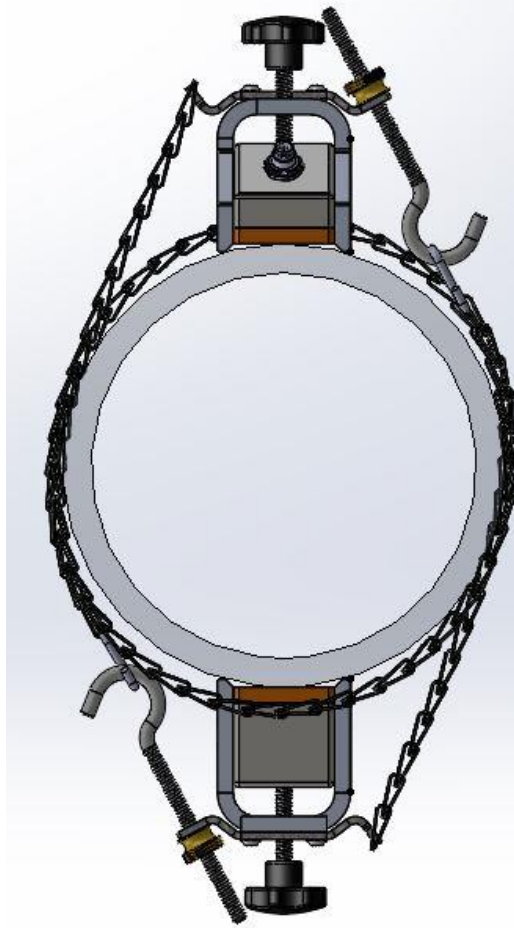

Figure 2-7. Opposite Side Transducer Installation, Front View
8. Position the second transducer mounting clamp on the pipe at the location determined by the flow meter and 180 degrees around the pipe from the first one. See Figure 2-7, 2-8, and 2-9 for reference.